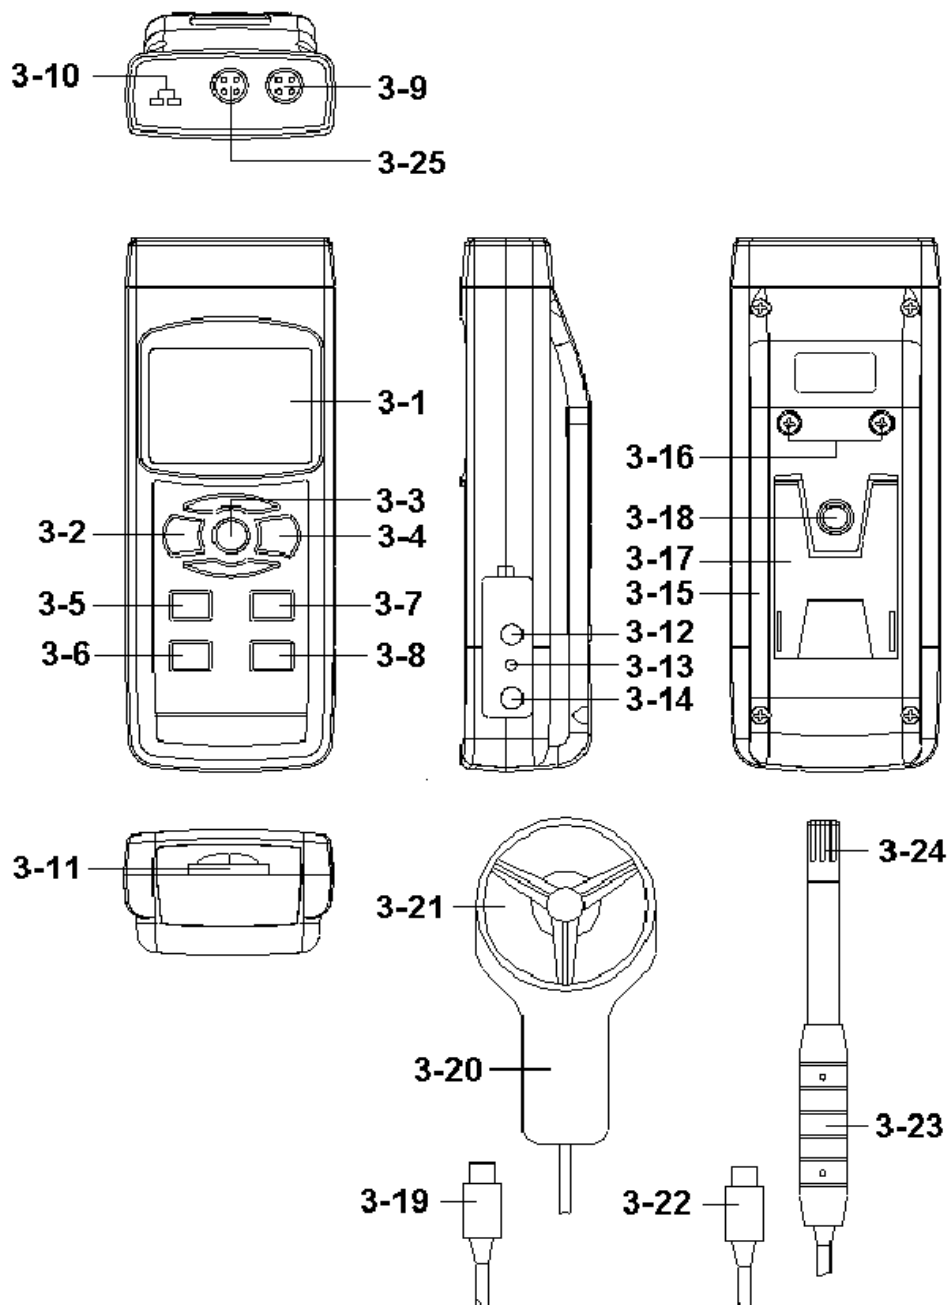

Fig. 1
( 3-2, Fig. 1 ) > 1.5 seconds continuously.
Pressing the " Function Button " ( 3-7, Fig. 1 )
just release the " Function Button " ( 3-7, Fig. 1 ), the
- b. Plug the " Probe Plug " ( 3-19, Fig. 1 ) into the " Probe Input Socket " ( 3-9, Fig. 1 ).
- c. Hold the " Probe Handle " ( 3-20, Fig. 1 ) by hand and let the " Probe Head " ( 3-21, Fig. 1 ) face against the measuring air flow source, then the Display ( 3-1, Fig. 1 ) will show air velocity directly. At the same time, the lower Display will show the air temperature value.
- a. Plug the " Probe Plug " ( 3-22, Fig. 1 ) into the " Probe Input Socket " ( 3-25, Fig. 1 ).
- b. Plug the Thermocouple Temp. Probe ( Type K Temp. probe or Type J Temp. probe, optional ) into " Type K/J Probe Input Socket " ( 3-10, Fig. 1 )
During the measurement, press the " Hold Button " ( 3-3, Fig. 1 ) once will hold the measured value & the LCD will display a " HOLD " symbol.
- 1) The data record function records the maximum and minimum readings. Press the " REC Button " ( 3-4, Fig. 1 ) once to start the Data Record function and there will be a " REC " symbol on the display.